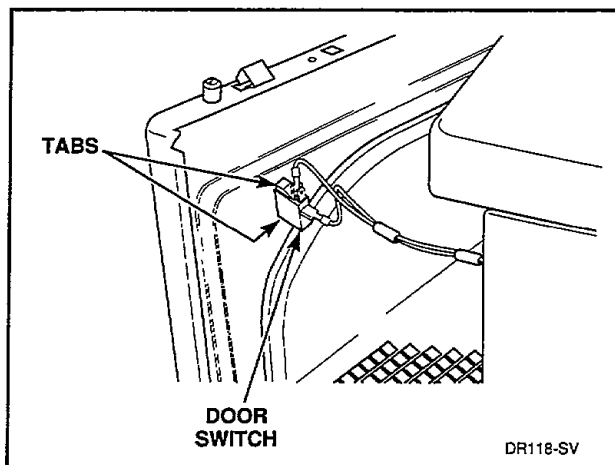

Figure 18
- Disconnect wires from door switch, *Figure 18*.
- Depress tabs on top and bottom of switch and push out of front panel, *Figure 18*.